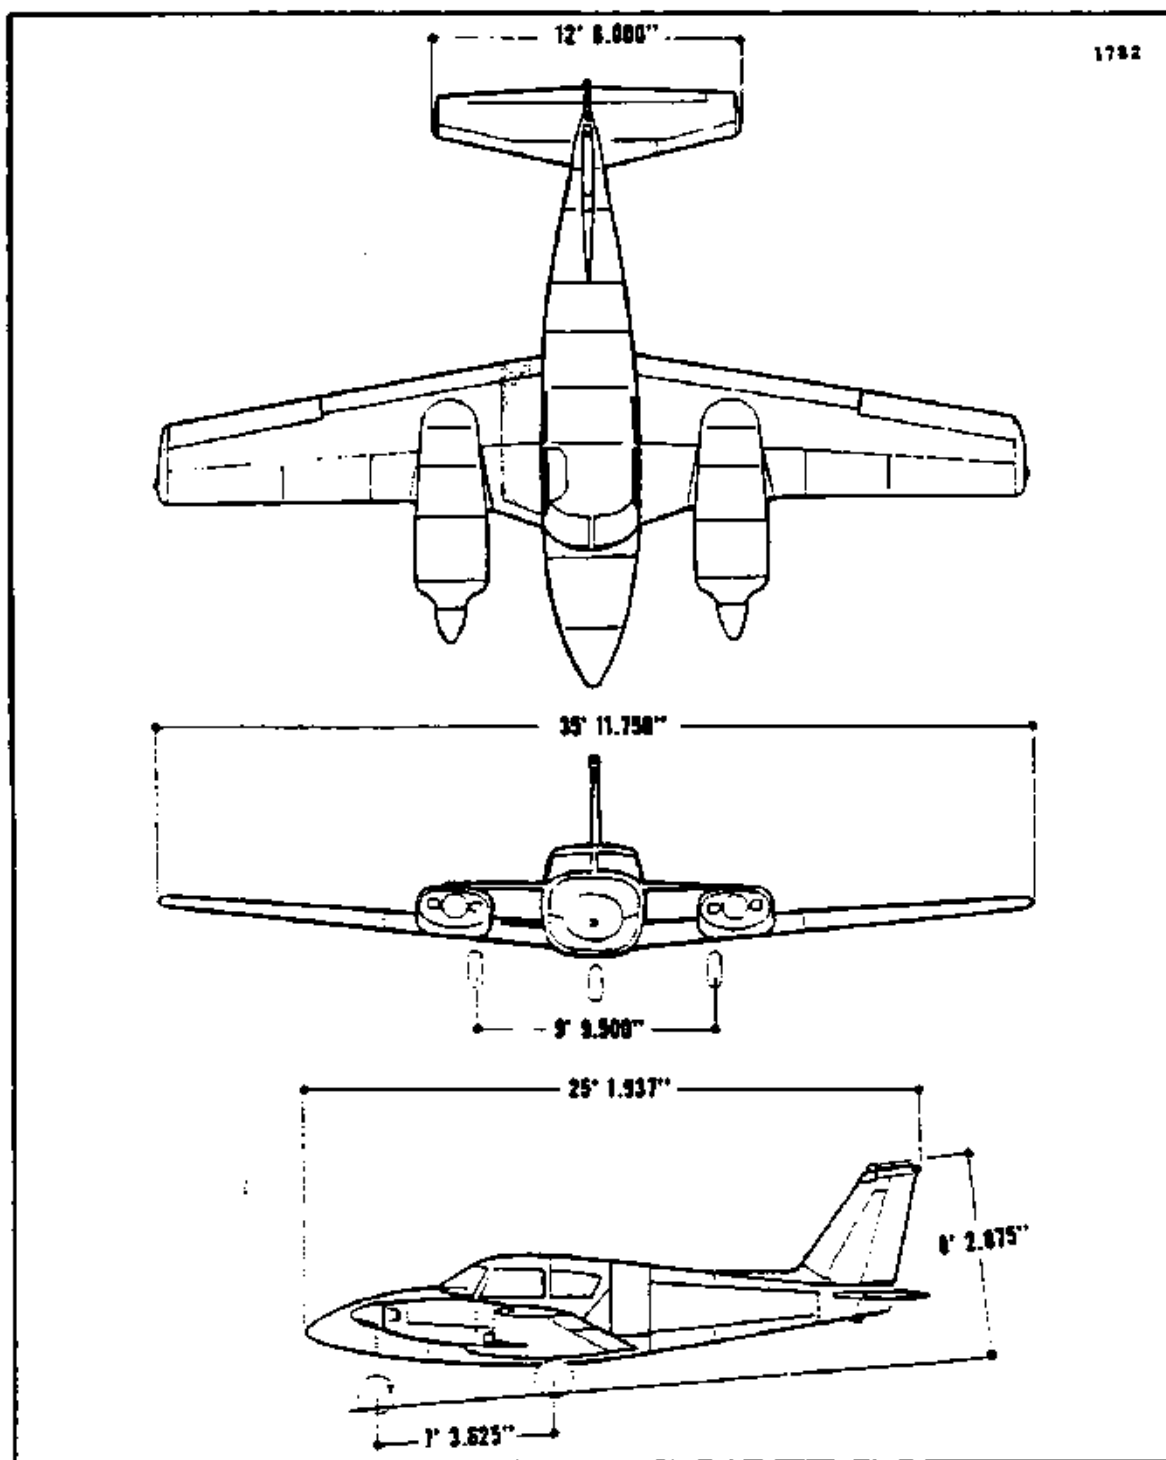

Figure 2-1. Three View of Twin Comanche PA-30
**2-2. DIMENSIONS.** The principal airplane dimensions are shown in Figures 2-1 and 2-2, and are listed in Table II-1.